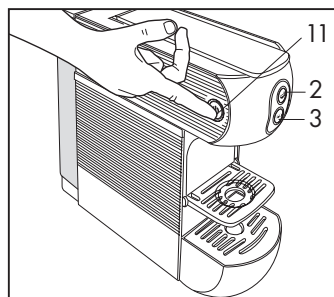

Fig. 4
- Switch on the machine with the main switch (11). The machine is on when the main switch lights up. **(Fig.4)**